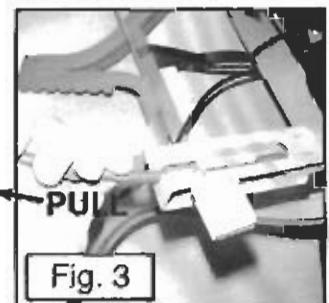

Fig. 3
**C.** Pull the cable towards the back of the tree and "seat" one of the cable stops against the back of the bracket, as shown in **Figure 3**.